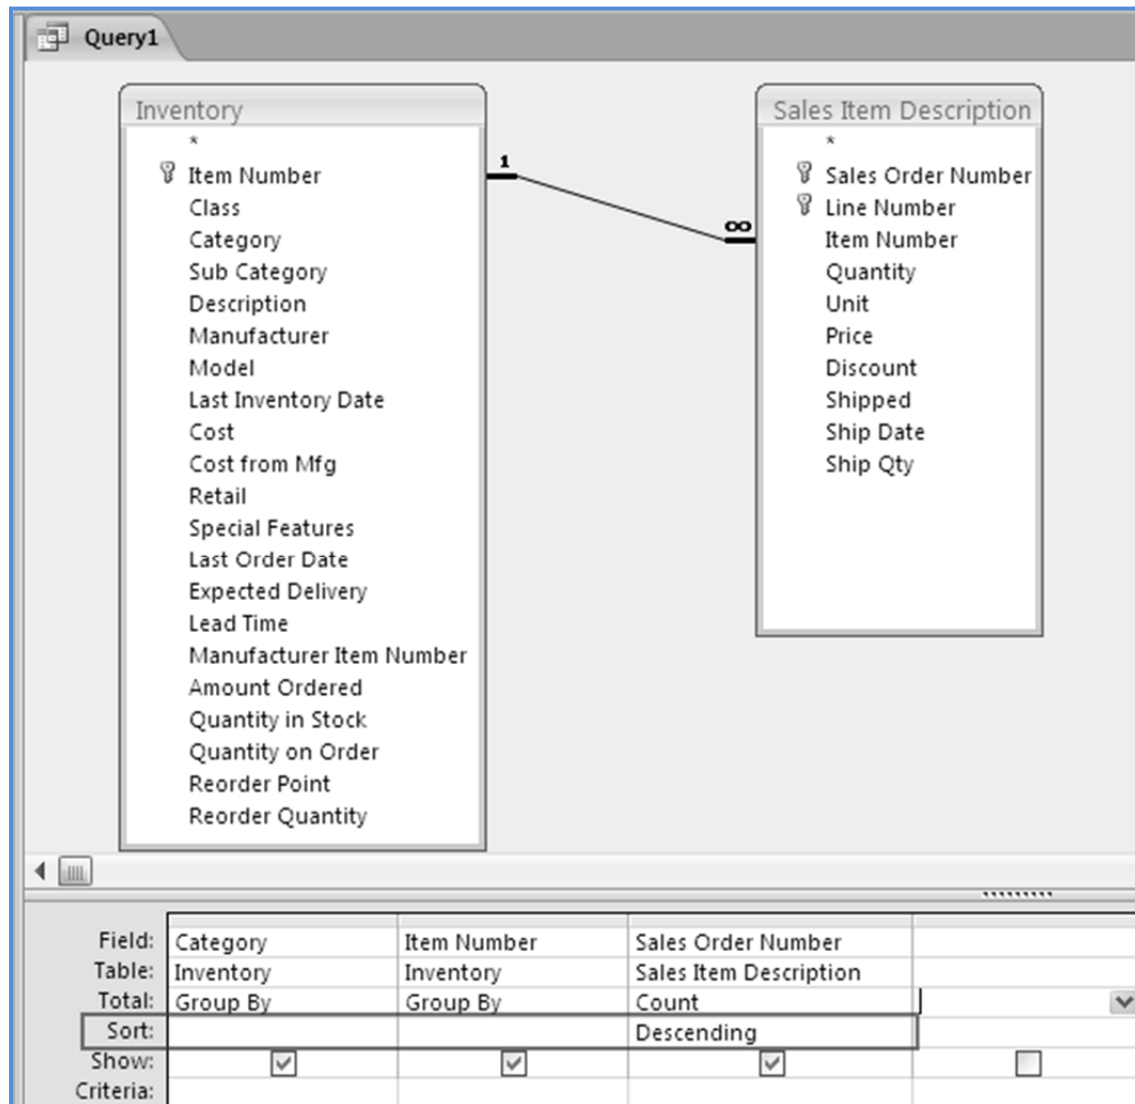

Fig. 1.2.34: Set the sort order
9. In the column *Sales Order Number*, set the sort order as descending, as shown in Fig. 1.2.34.